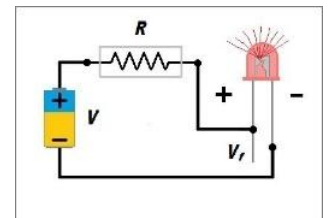

Fig. 3.3
- **Simple LED Circuit:** The figure 3.3 below shown a simple led circuit. The circuit consists of an LED, a voltage supply and a resistor to regulate the current and voltage.